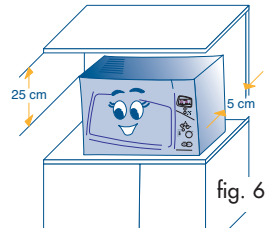

fig. 6
- 5) **When positioning the oven on the worktop, take care to maintain a gap of approx. 5 cm between the oven and the walls to its rear and sides and a gap of at least 25 cm above the oven (fig. 6).**